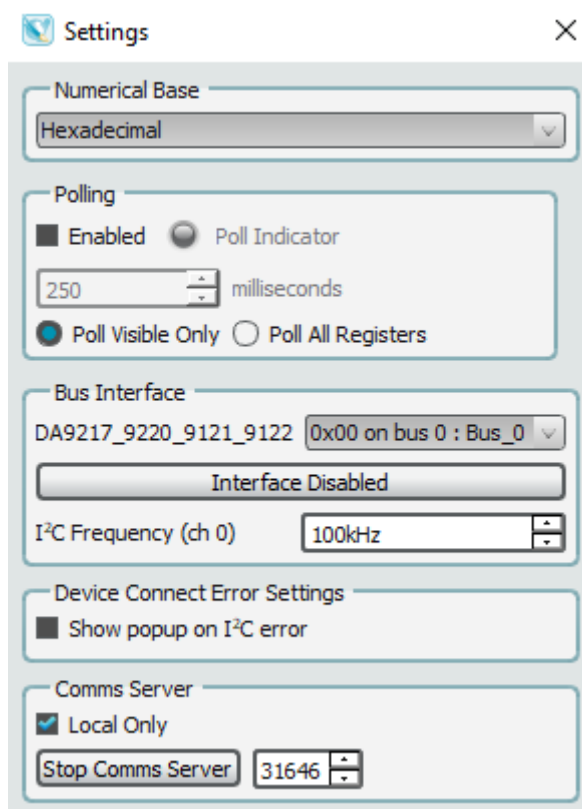

Figure 11: SmartCanvas GUI Settings Window
1. Select **Options > Settings** to displays the **Settings** window, see Figure 11.